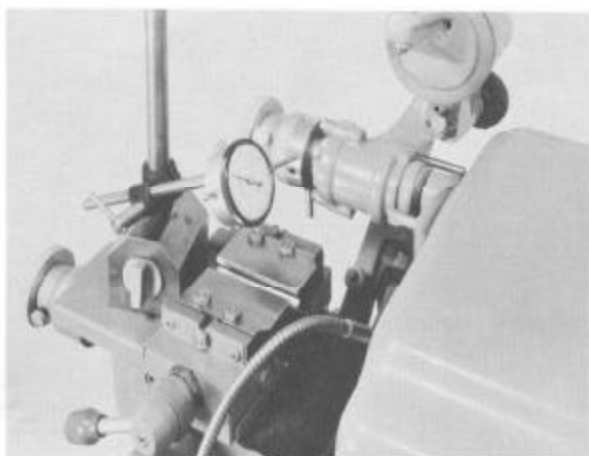

Figure 14a
Mount the dial wheel (16) on the leadscrew (21). Mount an indicator on the work slide and place the indicator point against the side of the wheel dresser so that it will record the movement of the spindle carrier in the plane perpendicular to the drill axis as shown in Figure 14a. Turn on the Spiropoint. You will note that two "dwells" are evident on the indicator during one gyration of the wheel around the axis of the drill. The distance between these "dwells" varies with changes in the drill diameter dial setting. You must set the diameter dial so that the total movement between "dwells" is 0.073". The easiest way to accomplish this is to set the indicator "zero" at the midpoint between the "dwells". That is, set the indicator dial so that both "dwells" measure an equal